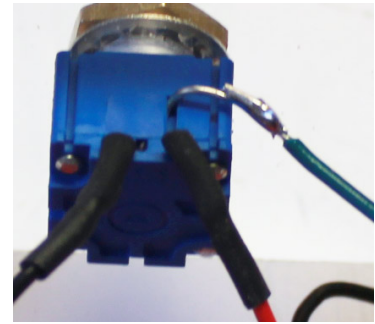

Figure 33
33. Find the only green wire soldered to the board at hole h15. This wire is soldered on the last free wire on the pot, R1, as seen in Figure 33. First trim wire to fit. Then add heat shrink tubing. Solder and then fix heat shrink tubing in place.